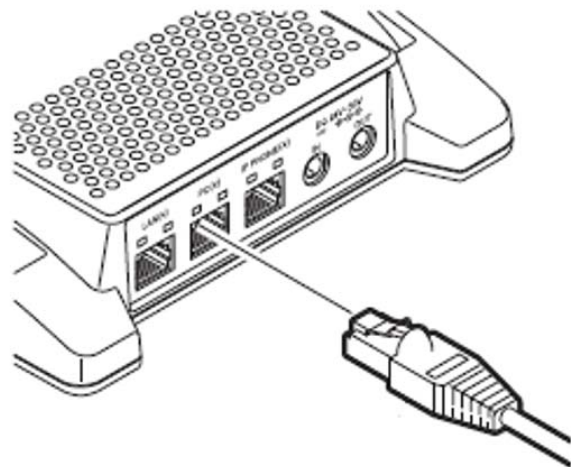

Figure 6-57 PC(X) Connection
14. Install the NEC provided Cat 5 Ethernet cable (refer to Figure 6-57 PC\(X\) Connection).